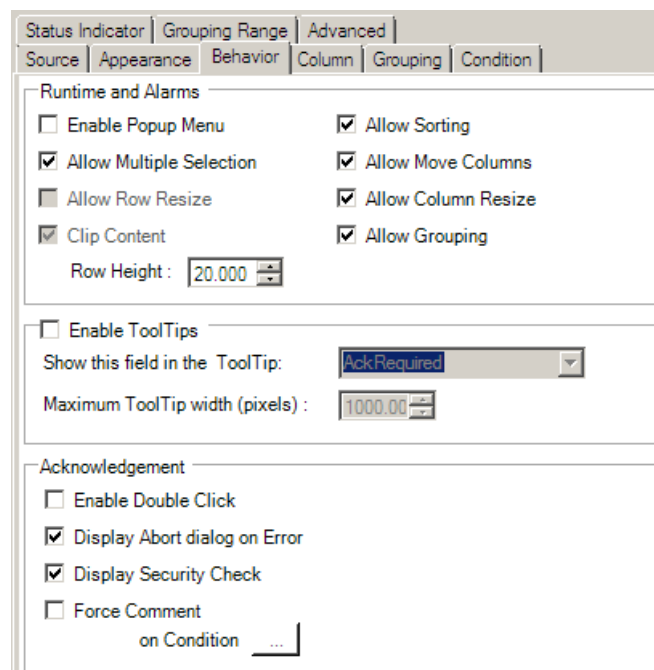

Figure L5.3 - Alarm Grid Behavior Tab
6. In the Acknowledgement section, make sure that the "Enable Double Click" option is unchecked. Your Behavior's tab should look similar to Figure L5.3 when you are done.